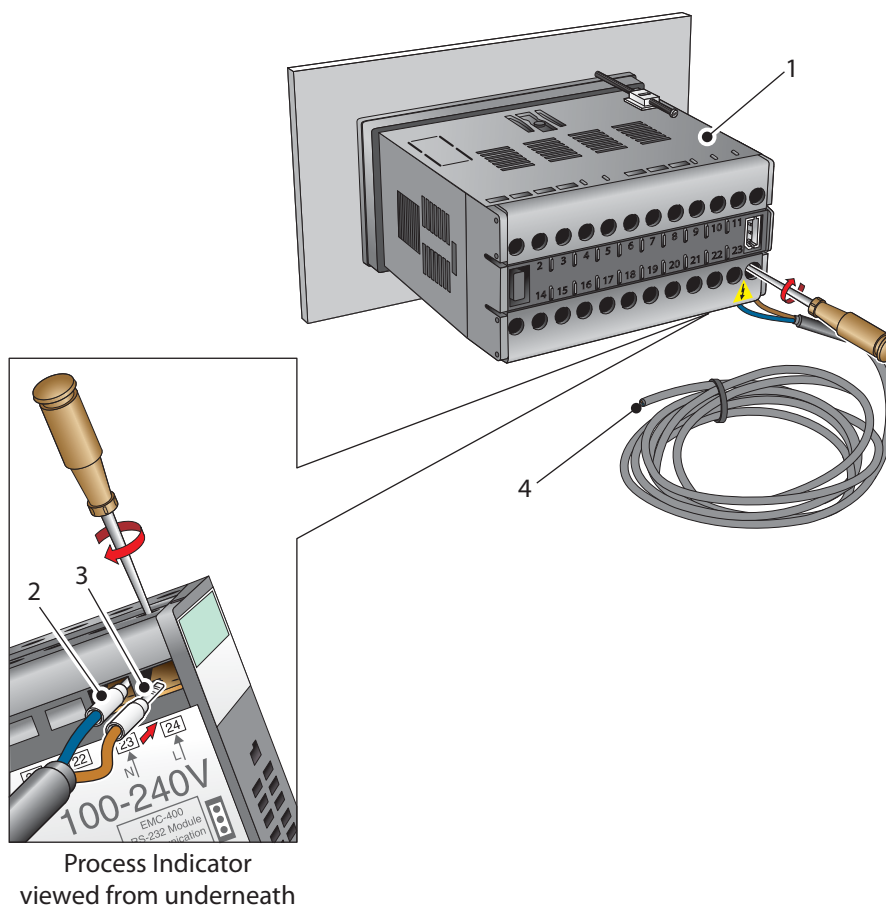

Figure 3.2 AC power supply connections
Connect the AC power supply to the Process Indicator (1) as shown in *Figure 3.2*. Refer also to Table 3.1 which gives a summary of all the connections to the rear panel of the Process Indicator.